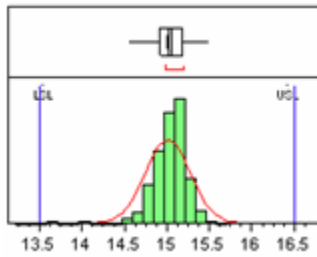
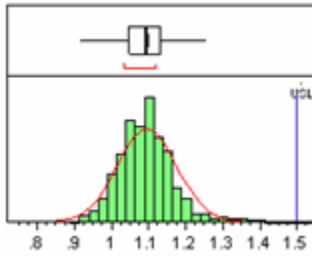

Figure 1. Gain @ 2.4 GHz, V_d 3V; V_{bypass} 1.8 V, LSL=13.5, Nominal=15.0, USL=16.5
Figure 2. NF @ 2.4 GHz, V_d 3V; V_{bypass} 1.8 V, Nominal=1.1, USL=1.5
5. Measurements at 2.4GHz obtained using demo board described in Figure 1, with component values on Figure 2 (2.3 – 2.4 GHz)